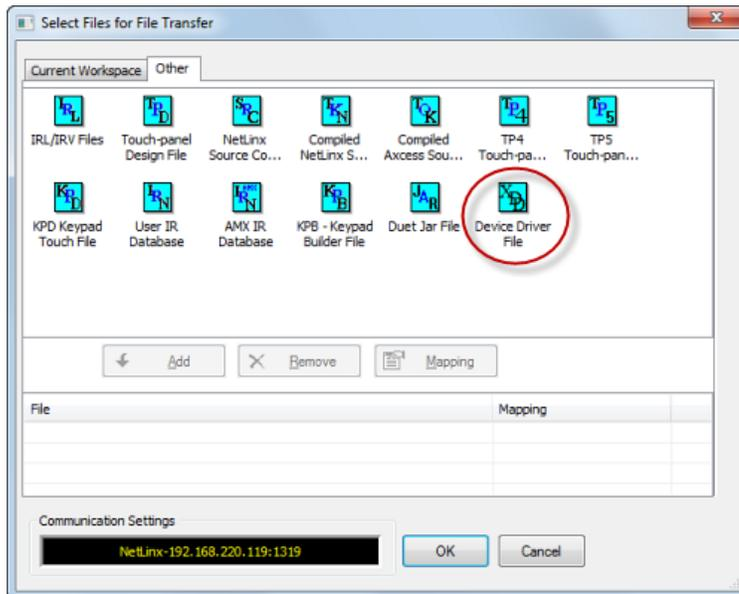

FIG. 112 Select Files for File Transfer dialog - Other tab
3. In the *File Transfer* dialog, click **Add** to open the *Select Files For File Transfer* dialog, and open the **Other** tab (FIG. 112):